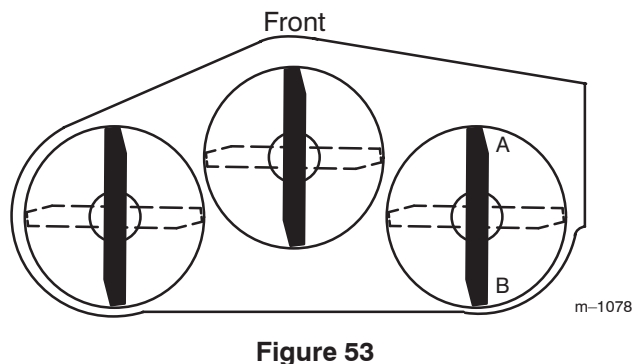
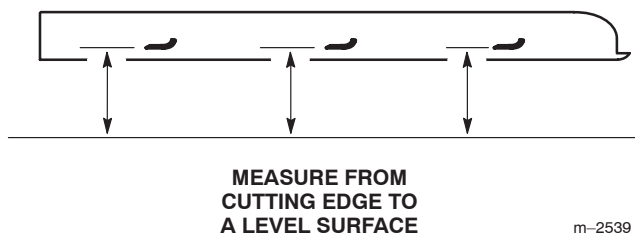

Figure 53
Figure 54
1. Position the **right** blade front to rear (Fig. 53).
2. Measure the right blade at the **A** location (Fig. 53) from a level surface to the cutting edge of the blade tip (Fig. 54).
4. Measure the right blade at the **B** location (Fig. 53) from a level surface to the cutting edge of the blade tip (Fig. 54).
6. The mower blade should be **1/4 to 3/8 inch (6 to 10 mm) lower at position A than at position B** (Fig. 53). If it is not correct, go to the following steps.